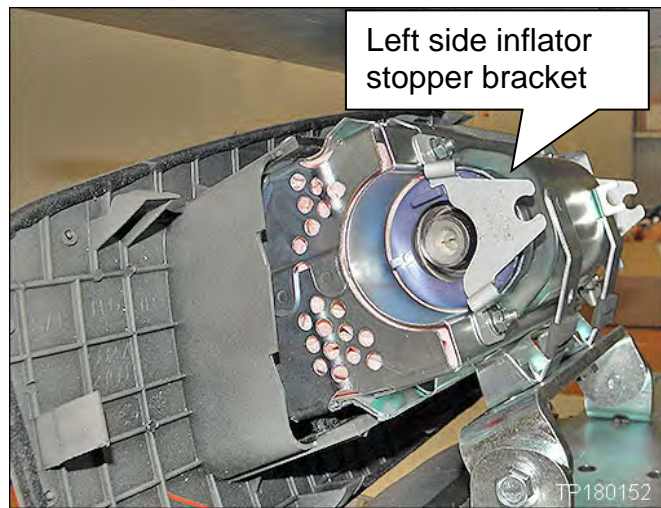

Figure 38
46. Install the **left** side inflator stopper bracket and 2 inflator securing nuts finger tight (see Figure 38).